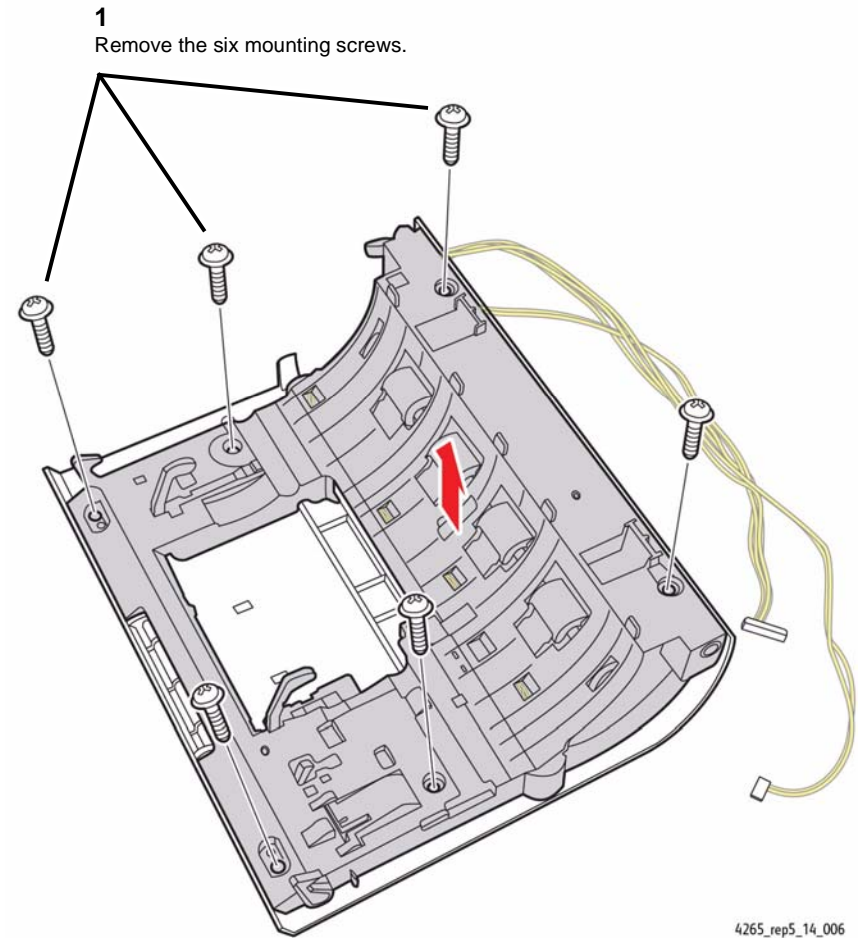

Figure 1 Separating the Top Cover from the Inner Cover.
3. Separate the Top Cover from the Inner Cover (Figure 1).